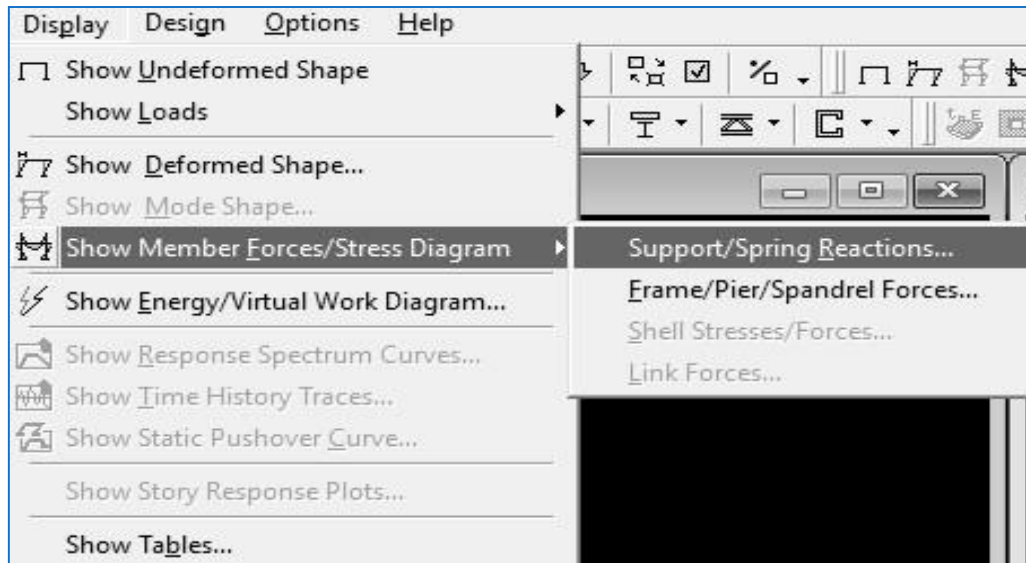

Fig: 4.25
6.1 **Support Reactions:** Go to display →Show Member Forces/Stress Diagram →Support/Spring Reactions→Select Load (Live/Dead etc.)→ OK →Select the Support point by click (from the display elevation view) →press mouse right button and find out your desirable values like vertical force, horizontal force and moment. (Fig: 4.25, 4.26)